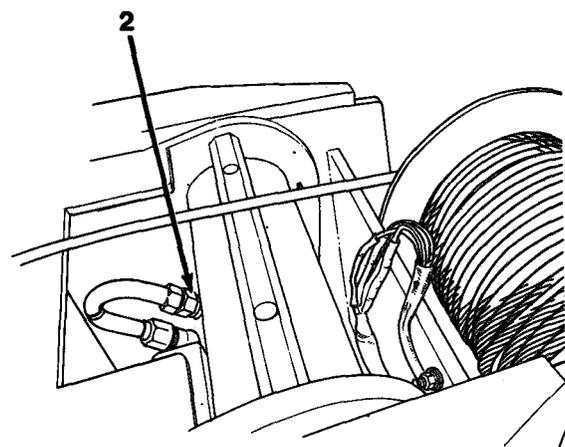

Figure 15-2
7. Remove caps from hydraulic hoses and cylinder tubes. Install two hydraulic hoses (2, Figure 15-2) to boom extend cylinder.